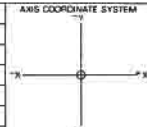

**Figure 5-7 Workpiece Example (Multiply)**
A scale model one-fourth the size of the full-sized component is to be machined. Figure 5-7 shows the full-size dimensions on the drawing. The PRO is to be used with the drawing to machine the scaled-down model.
- Complete PROgram Chart as explained in Example 5.2. Use dimensions indicated in Figure 5-7 and write multiplier in space provided.